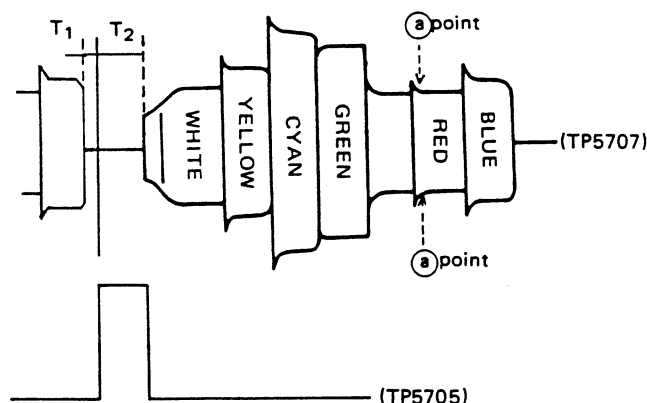

Figure 2-19.
2. Connect an oscilloscope to TP5702 and TP5705, and check that the output of chroma signal is as shown in Fig. 2-19.
Adjust T5702 so that the output at the point ① is as shown in Fig. 2-19.